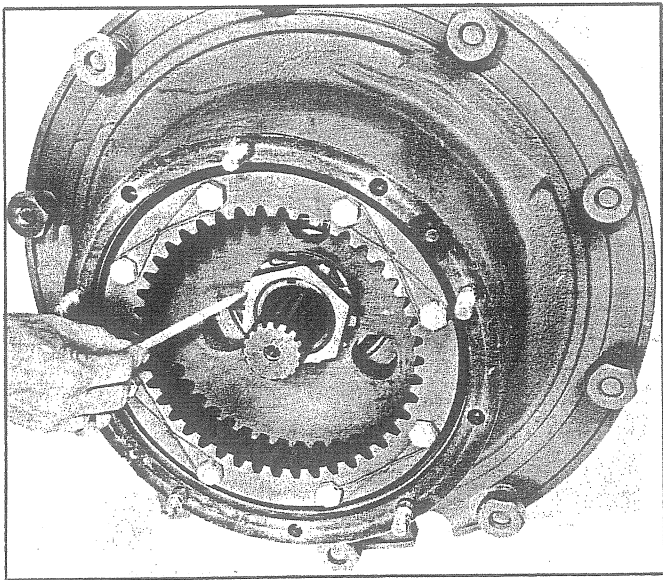

Fig. 34 - View Showing Spindle Nuts and Tang
28. Install the spindle nut lock and outer spindle nut. Tighten outer spindle nut securely. Bend the tang on the spindle nut lock so that both nuts will be locked in position. See Fig. 34.